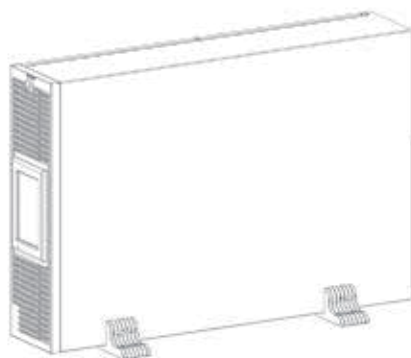

Fig.3-3 Tower installation
Step 3: Place the UPS (and battery cabinet) on the support bases. Each UPS needs two pairs of support bases to install, as shown in Fig.3-3.